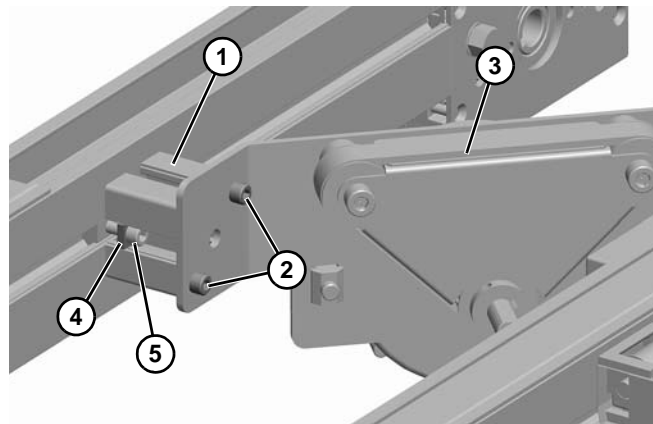

Figure 80
2. Assemble rail extension (**Figure 80, item 1**) to drive assembly with socket head screws (**Figure 80, item 2**). Repeat on opposite side. Tighten screws.
3. Install drive assembly (**Figure 80, item 3**) to conveyor with key bar (**Figure 80, item 4**) and socket head screws (**Figure 80, item 5**). Repeat on opposite conveyor. Do not tighten screws.